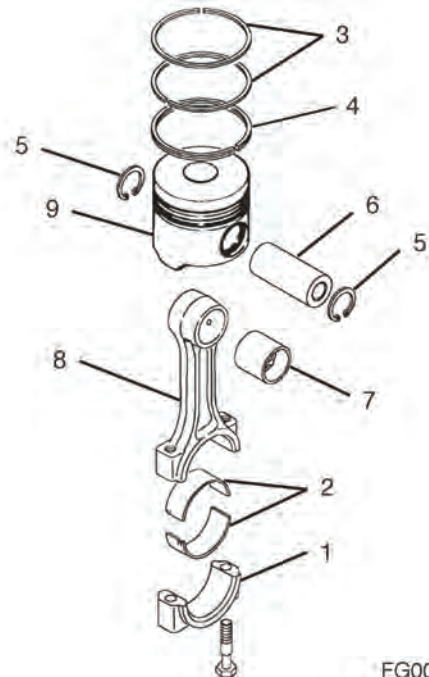

Figure 180
5. Remove the bearing inserts (2, Figure 180).
6. Remove the compression rings (3, Figure 180) from the piston using a piston ring expander.
7. Remove the oil ring (4, Figure 180) from the piston using a piston ring expander.
8. Remove the circlips (5, Figure 180) from the wrist pin.
9. Remove the wrist pin (6, Figure 180) and connecting rod (8, Figure 180) from the piston (9, Figure 180).